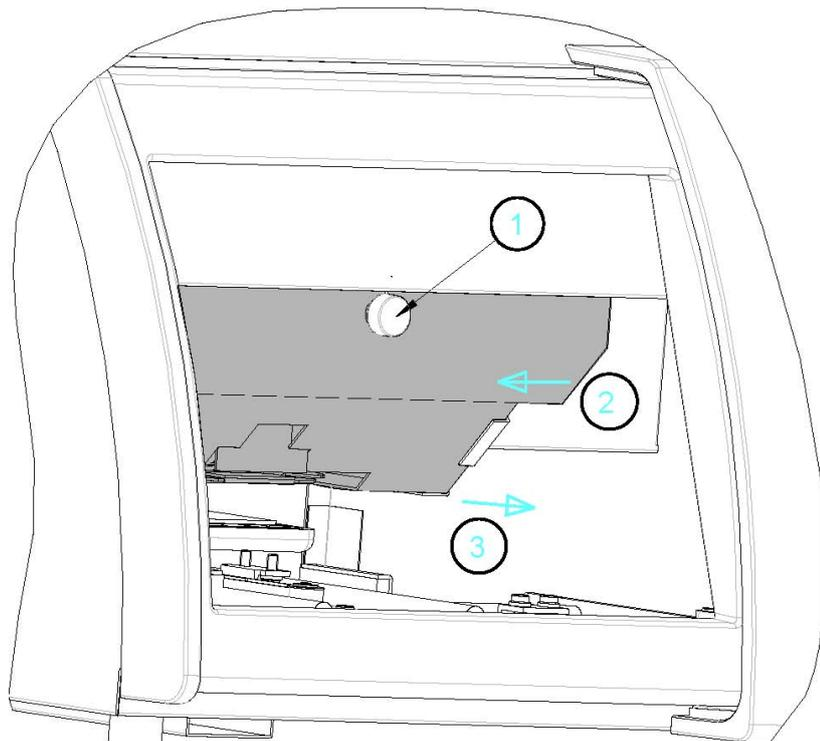

Fig. 9: Handling of the PM-cover for illumination lamp exchange.
- Remove the knurled screw Fig.9 (1) of the PM-cover on the front side. Pull the PM-cover towards left Scanner 4 side and take it out of the Scanner (2). Inset the PM-cover carefully in the opposite manner (3) Fig.9 and Fig.10.
- Slide the PM-cover carefully back into stop position (3) and replace and tighten the knurled screw (1) Fig.9. (UV-filter in PM-cover # 692.0025)